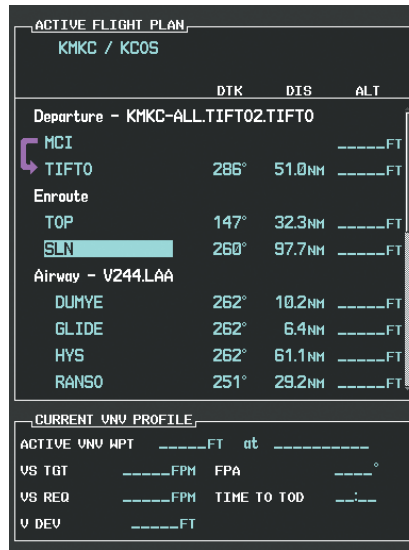

Figure 5-108 TOP Inserted into the Flight Plan
d) Press the **ENT** Key. TOP is inserted into the flight plan as in Figure 5-108.
e) With SLN still highlighted as in Figure 5-108, turn the small **FMS** Knob clockwise. The Waypoint Information Page is displayed and the **LD AIRWY** Softkey is now available.